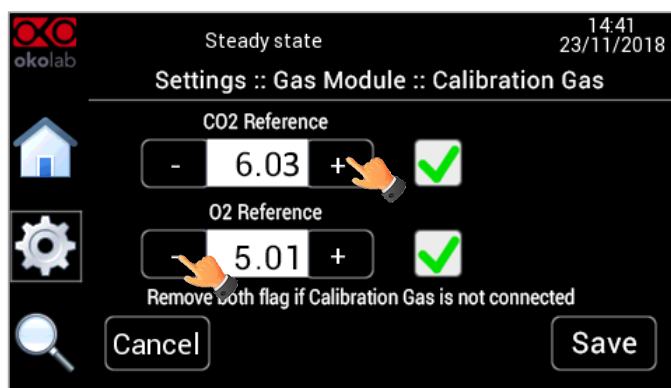

Figure 58. Calibration gas reference values
4. The reference CO2 and O2 values are inserted as shown in Figure 58